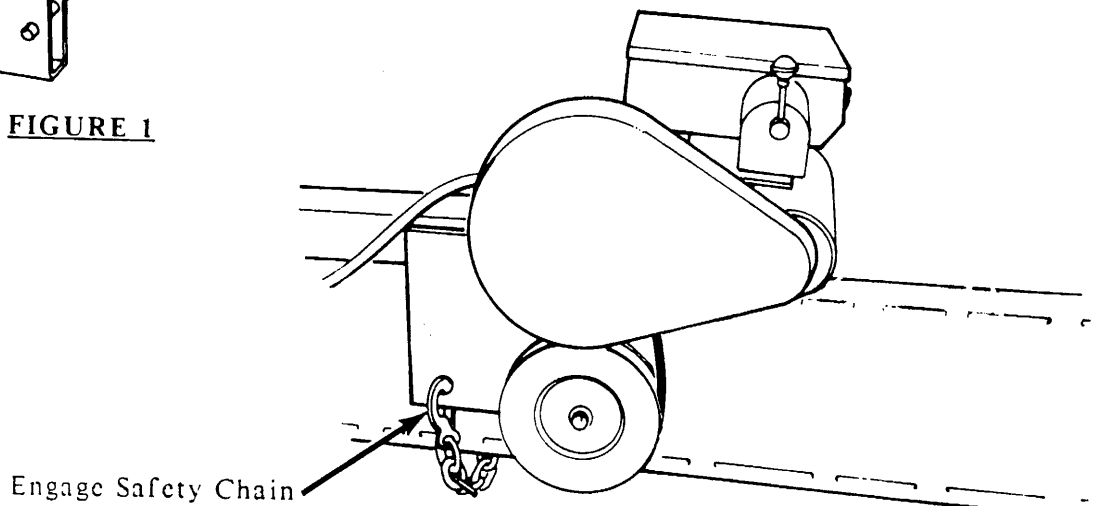

FIGURE 2
4. Hook the carriage safety chain on the bracket shown in Figure 2. **NOTE:** Manual feed units have a U-shaped bracket for the safety chain to hook onto.